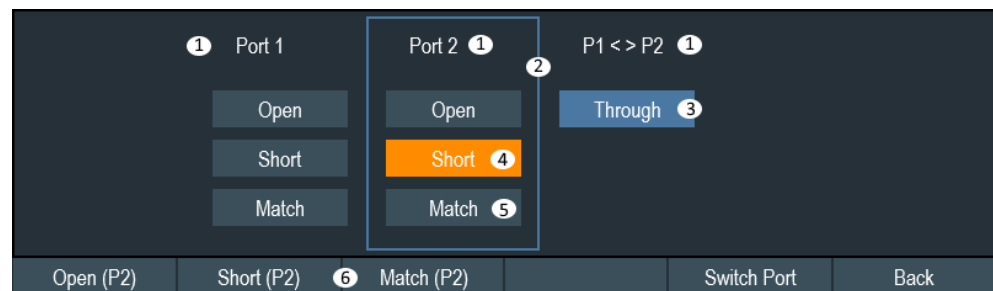

Figure 8-3: Calibration dialog
10. You can randomly select any of the calibration standard ("Open", "Short", "Match", "Through", "Line") at different calibration test ports to proceed the calibration. Alternatively, press "Switch Port" to switch to the desired test port to proceed the calibration standard. Completed calibration standards are highlighted in blue, whereas port in calibration process is highlighted in orange. See Figure 8-3.